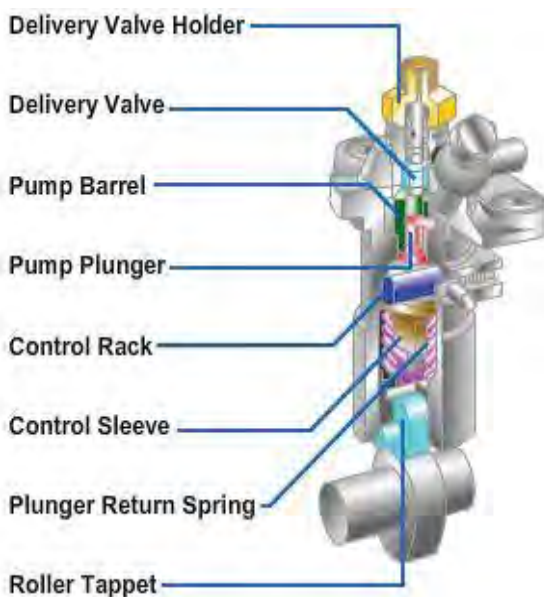

Figure 2-8 - Individual pump system.
- The individual pump system is a small pump contained in its own housing, and supplies fuel to one cylinder. The individual plunger and pump barrel, shown in *Figure 2-8*, are driven off of the engine's cam shaft. This system is found on large-bore, slow speed industrial or marine diesel engines and on small air-cooled diesels; they are not used on high speed diesels.